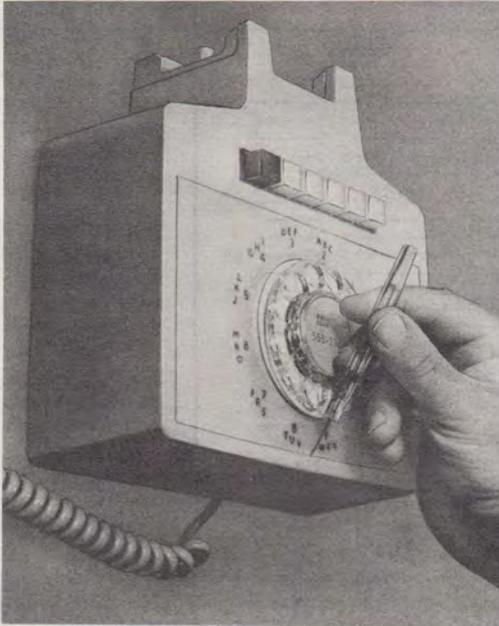

Fig. 5—Installing 853A Faceplate
The 853AM and 2853AM telephone sets are factory wired for two intercom lines only; for the third intercom line refer to (Fig. 5 and 6).
5.05 When necessary to remove housing, the faceplate must first be removed by using a KS-21107 type reloader (Fig. 5) or equivalent in catch in bottom of faceplate. Housing can then be removed by loosening two captive screws under faceplate area.